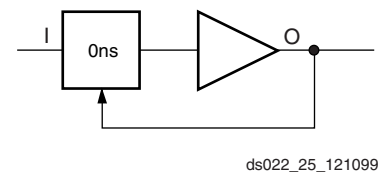
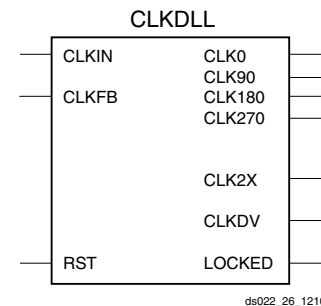
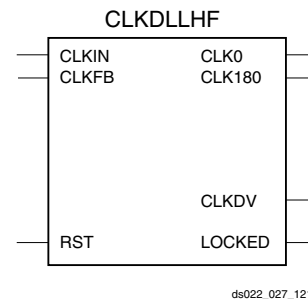

Figure 21: Simplified DLL Macro Symbol BUFGDLL
Figure 22: Standard DLL Symbol CLKDLL
Figure 23: High Frequency DLL Symbol
**Figure 21** shows the simplified Xilinx library DLL macro symbol, BUFGDLL. This macro delivers a quick and efficient way to provide a system clock with zero propagation delay throughout the device. **Figure 22** and **Figure 23** show the two library DLL primitives. These symbols provide access to the complete set of DLL features when implementing more complex applications.